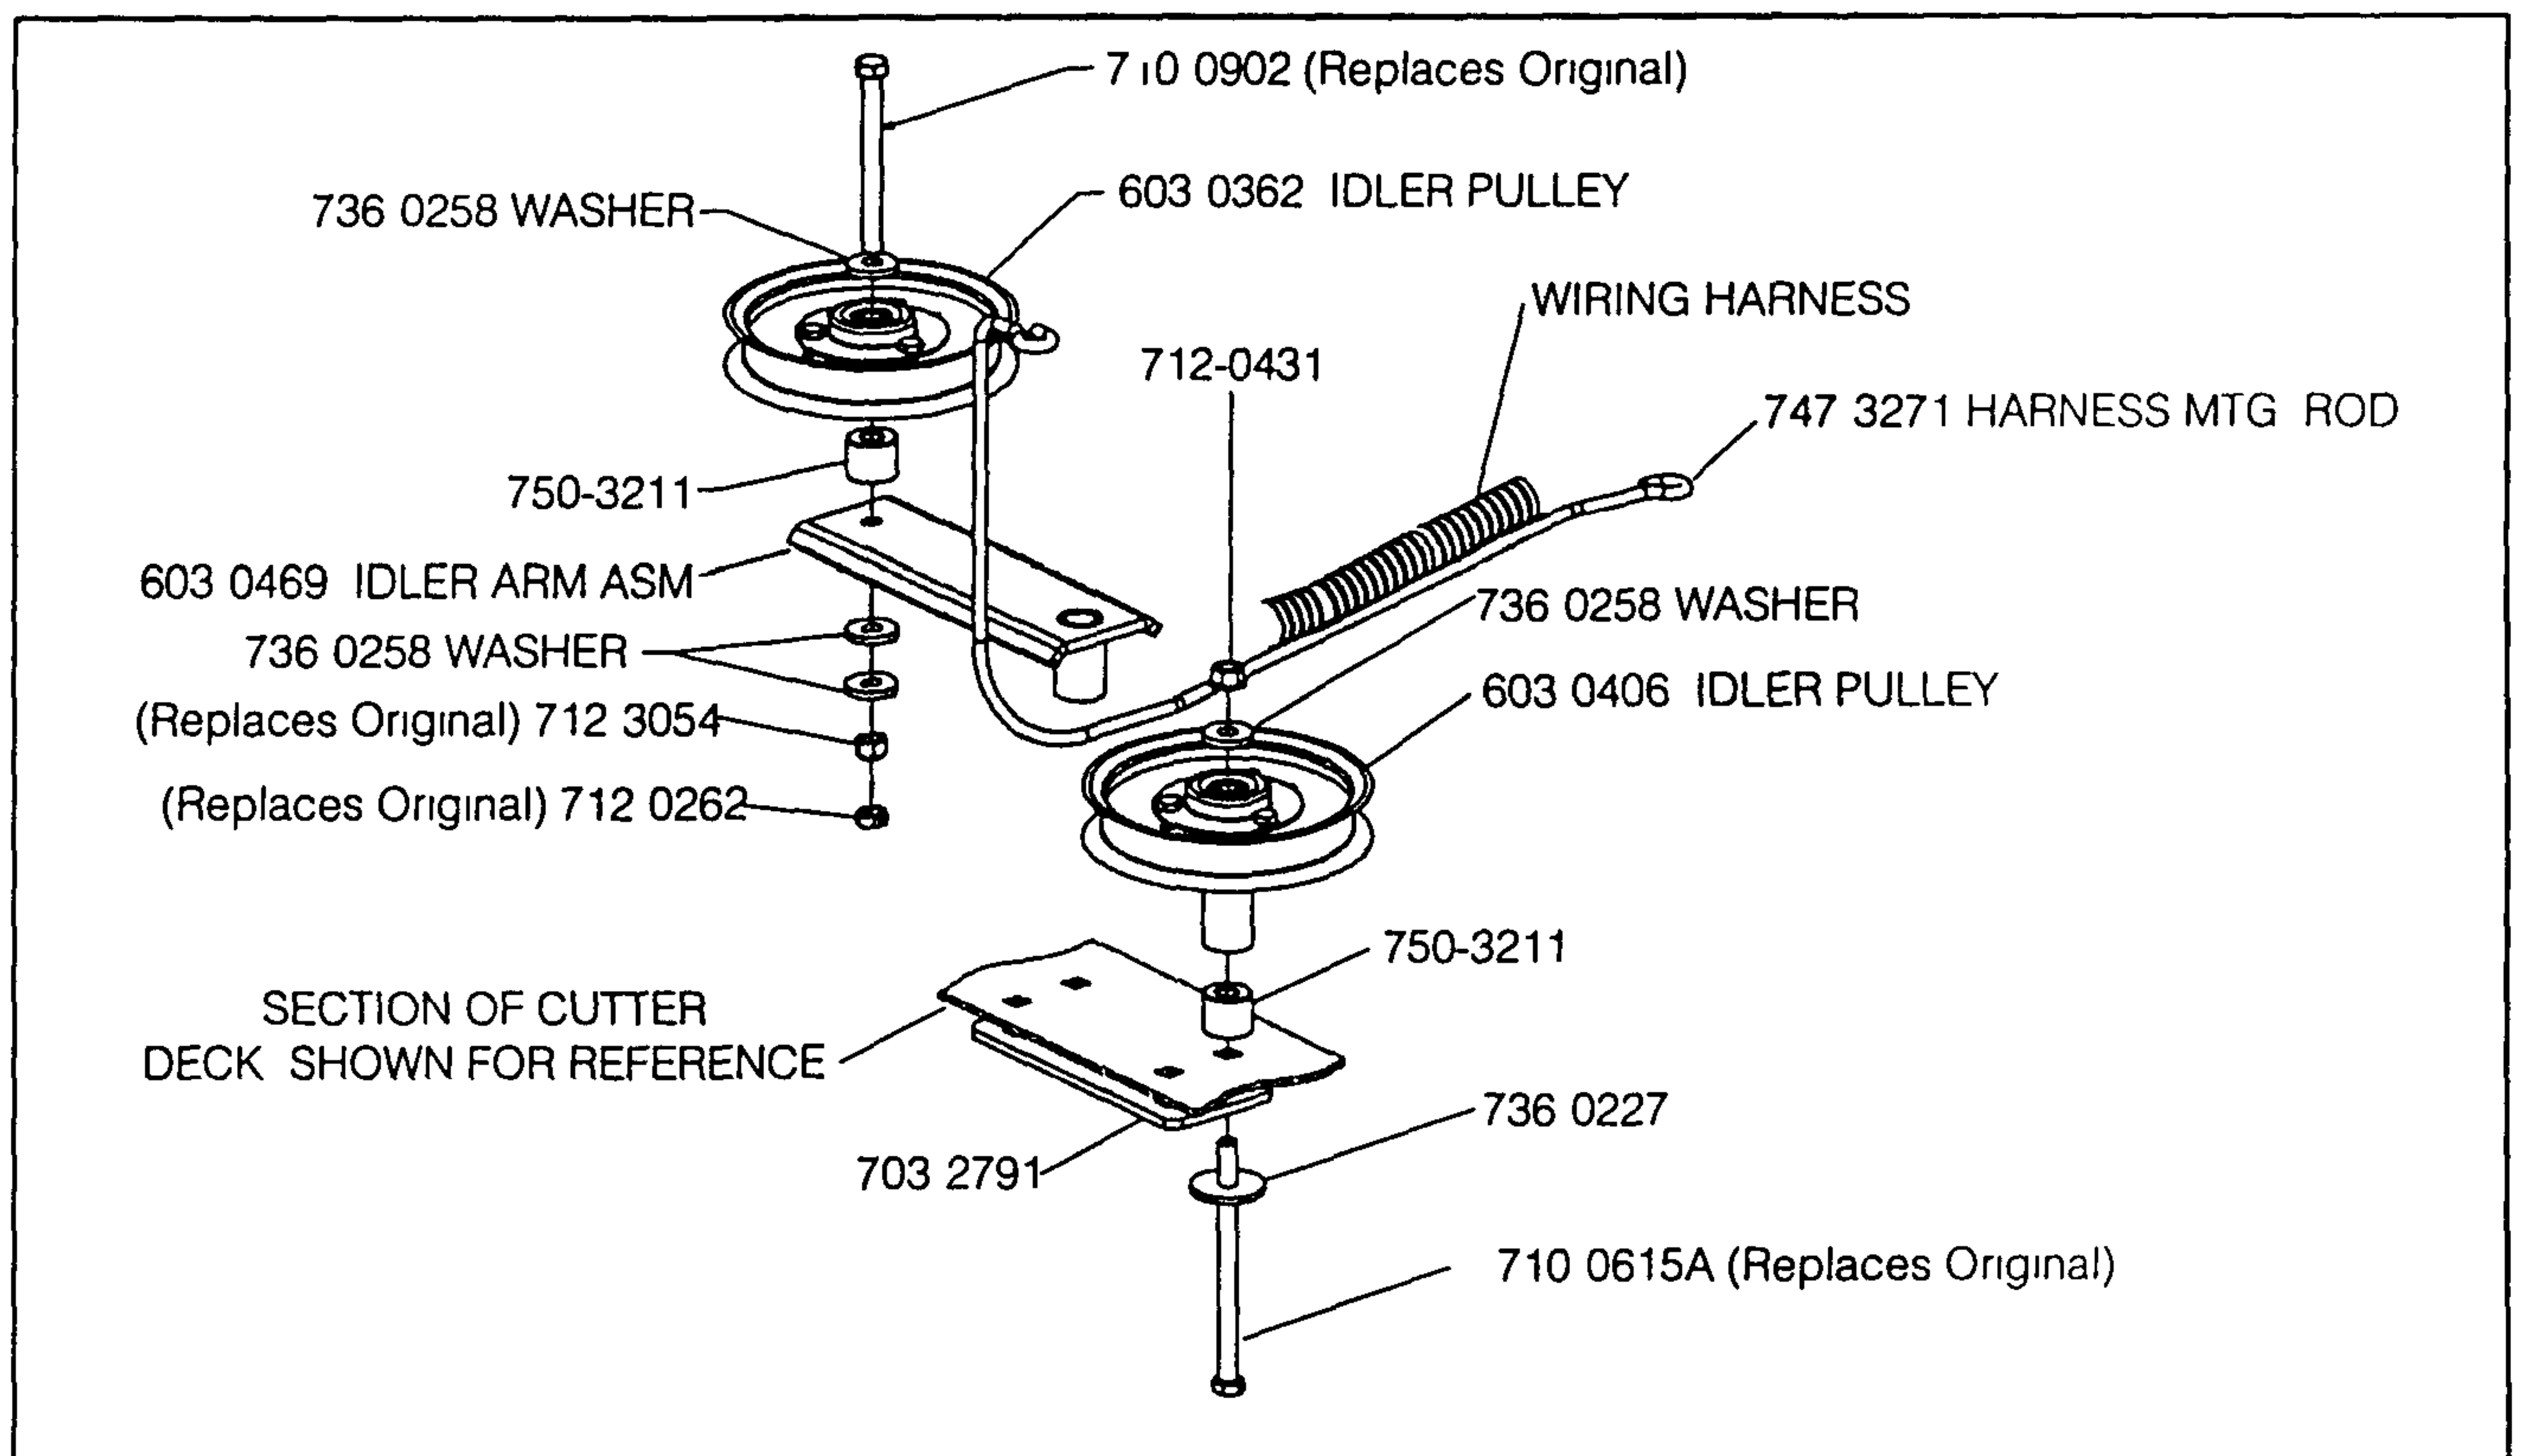

Figure 1
4 Install 750-3211 under 603-0406 using 710-0615A 736-0227 and 712-0431 (place 736-0258 in appropriate position as shown in Figure 1)
7 Install 750-3211 under 603 0362 using 710-0902 and 712-3054 placing all washers in appropriate positions as shown on Figure 1
Important: After installing the (2) 750-3211 spacers look for the wiring harness mounting rod P/N 747-3271 underneath the floor of the Z-Series mower (Figure 1) Be sure to use electrical tape and mount the wiring harness above the rod as shown in Figure 1